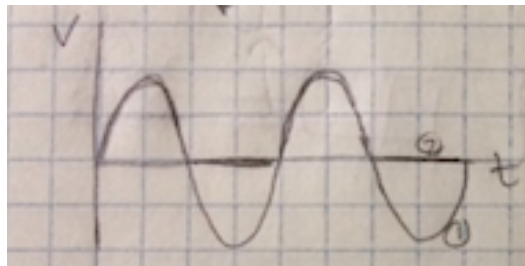

Figure 1: This is a caption
- 2) A simple half-wave rectifier gets rid of the negative voltage values within the output signal (Fig. 1), adding a capacitor to filter the